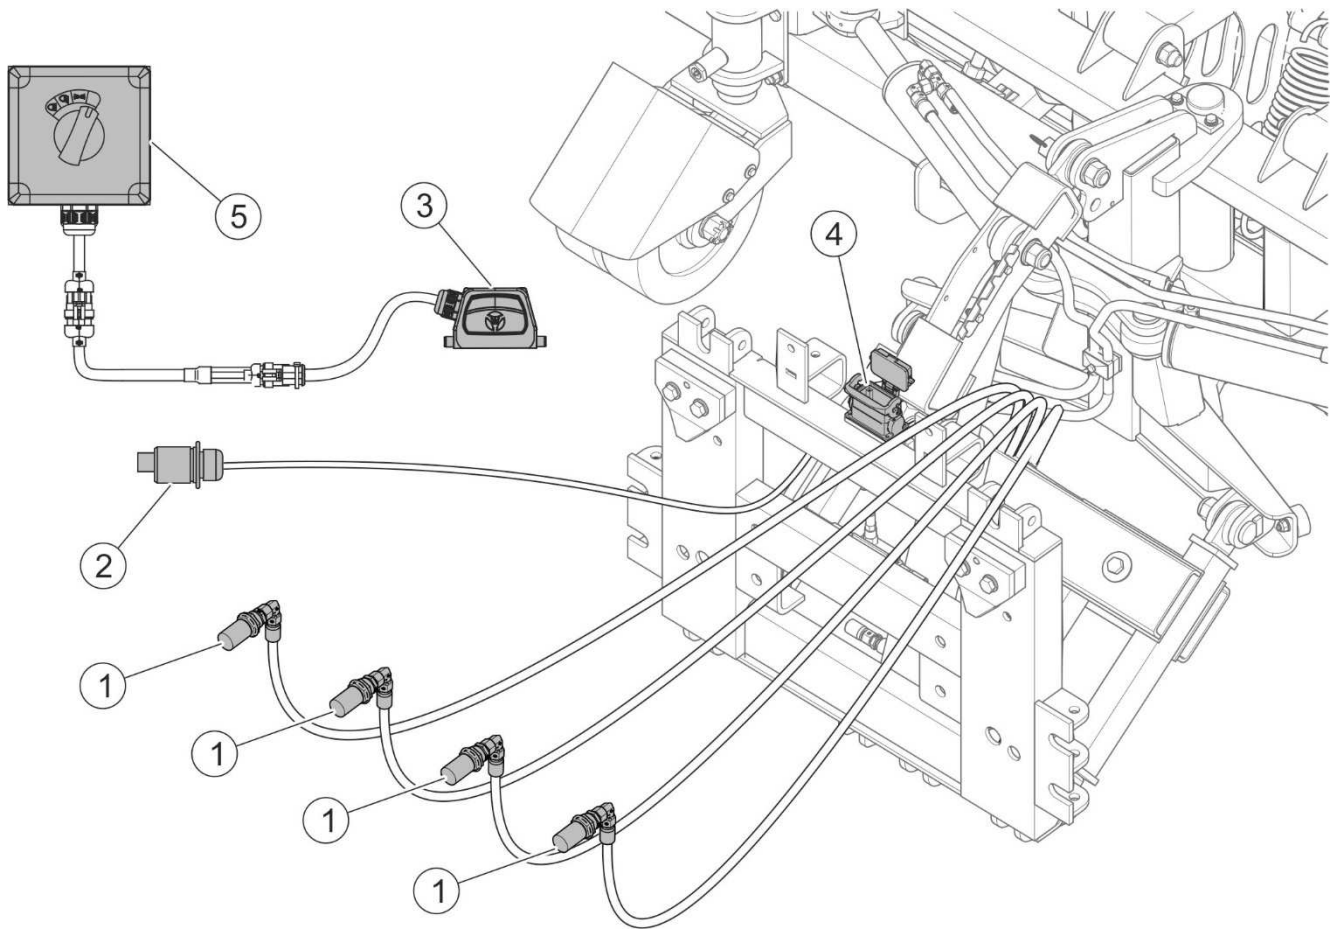

FIGURE 4.4 Connecting the snowplough's hydraulic system and electrical system
The pair of hydraulic quick couplers (1) (FIGURE 4.4) responsible for the mouldboard rising/lowering control circuit should be connected to the section of the carrying vehicle's external hydraulic system with the floating function. The second pair of quick couplers (1) should be connected to the second section of the carrying vehicle's external hydraulic system.
- A) Bring the snowplough set on the parking stands with wheels close to the carrying vehicle's mounting plate. Connect two pairs of the snowplough's hydraulic system conduits to corresponding connectors of the carrying vehicle's external hydraulic system (FIGURE 4.4). Connect the snowplough's control panel wiring harness to the control socket on the snowplough. Place the control panel in the operator cab in an easily accessible place. Connect the snowplough's electrical system connection to the socket of the carrying vehicle's power supply wiring harness (FIGURE 4.3).